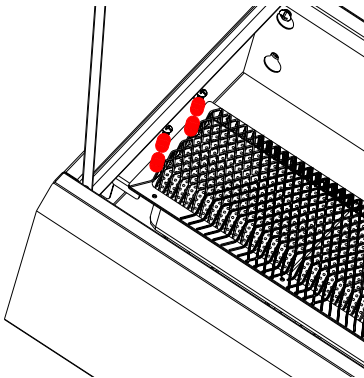

Fig.20I
Refer to Fig. 20I – Fasten the Burner to the bracket at the back wall of the housing using (2) ST4.0x10 screws